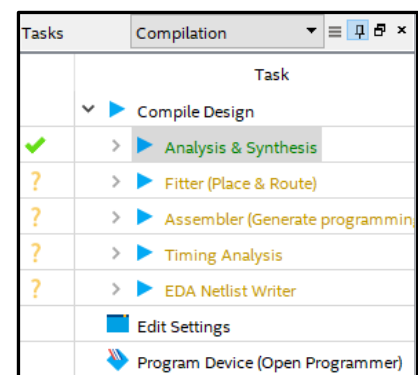

Figure 6: Completed Functional Compile
- 1) To functionally compile your design, double click the “Analysis & Synthesis” in the Compilation window shown in Figure 6 or select the symbol . Figure 6 shows the result of the Functional Compiling.